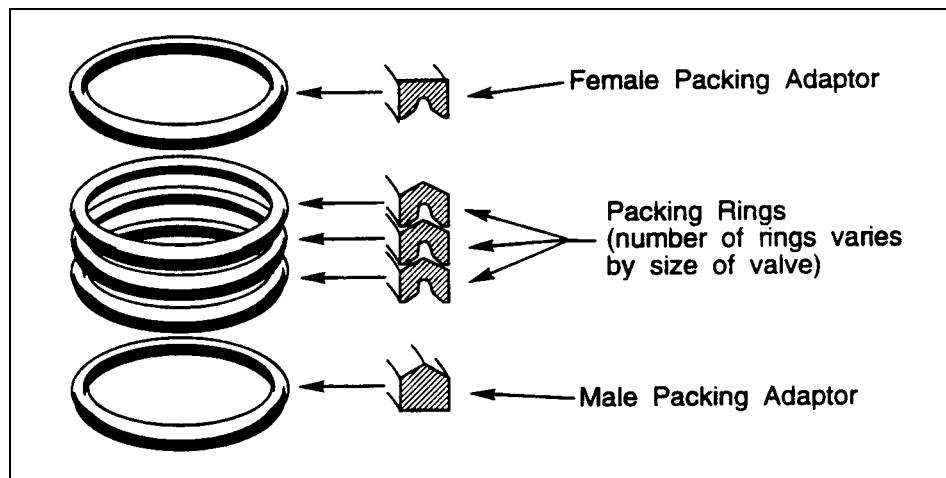

Figure 3—Correct Packing Installation Sequence
- Lubricate the new packing, then install it one ring at a time as shown in Figure 3.
9. Install the packing one ring at a time. See Figure 3.